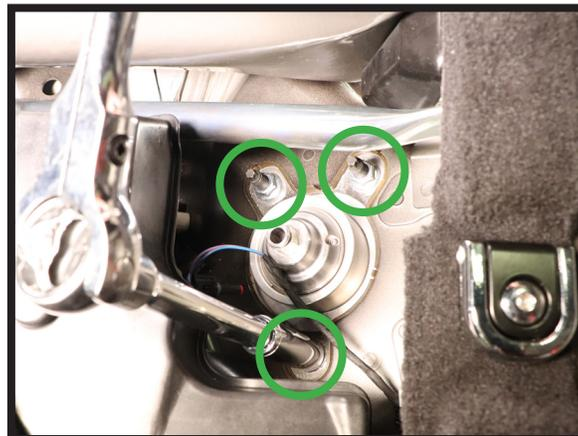

FIGURE 3
6. REMOVE THE THREE (3) TOP NUTS FROM UPPER SHOCK MOUNT. (FIGURE 3)